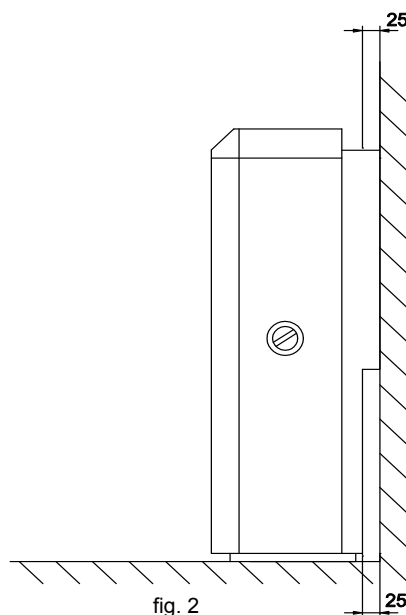

fig. 2
- 5.- Attach the LH & RH spacers to the storage heater using the screws supplied, in the same way as the screws are fixed in the upper rear section of the heater side. Check the heater is separated 25mm from the wall at the top and bottom of the heater (Fig. 2). Fit and screw the appliance to the anti-tilt device.